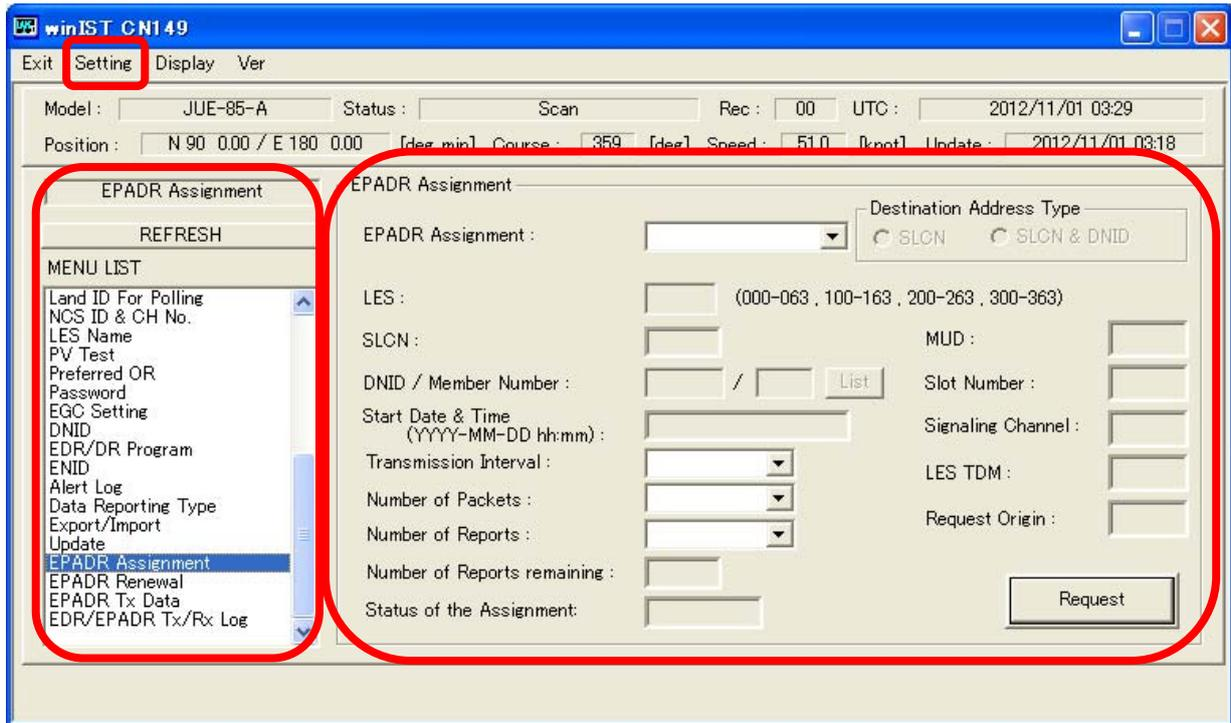

Fig. 4-34-1a [EPADR Assignment] screen
2. Operation except [Exit], [Display], and/or [Ver] is not possible while winIST is communicating with INMARSAT terminal(the function in the frame of **Fig. 4-34-1a [EPADR Assignment] screen** cannot be operated.)